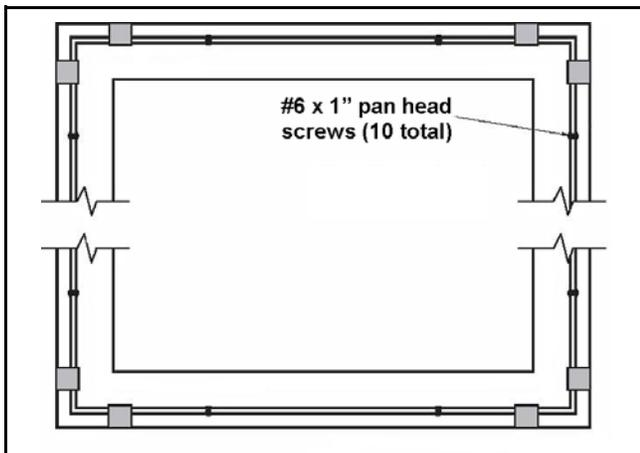

Figure 18
12. Use the door frame holes as a guide to lightly punch pilot holes for the #6 x 1" pan head screws (**Figure 18**).